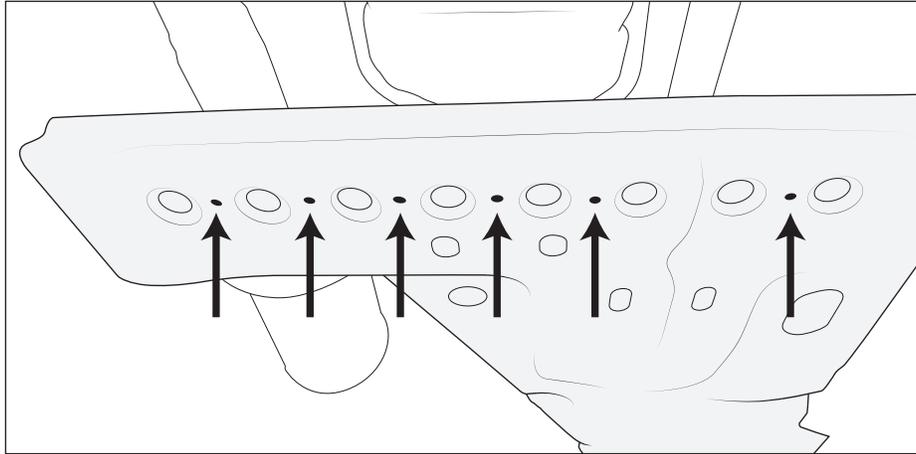

Figure 1
1. Confirm there are mounting holes in Transfer Case Skid (fig. 1). There were a limited number of Bison produced without these holes.